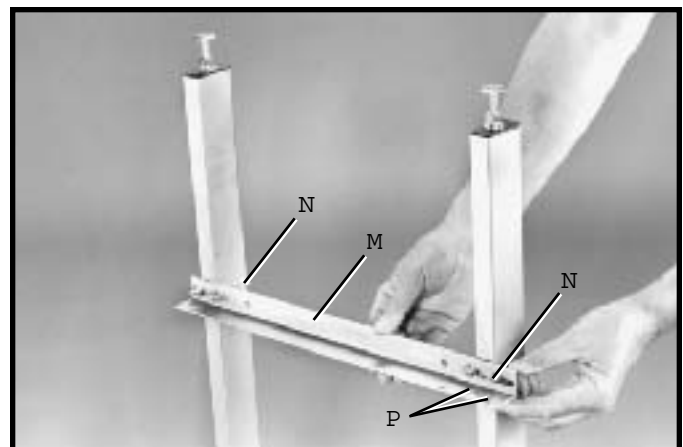

Fig. 50
5. Assemble shelf support bracket (M) Fig. 50, to the table legs (A) using two U-clamps (N), flat washers, and hex nuts (P). NOTE: Height adjustments to the bracket can be made later.